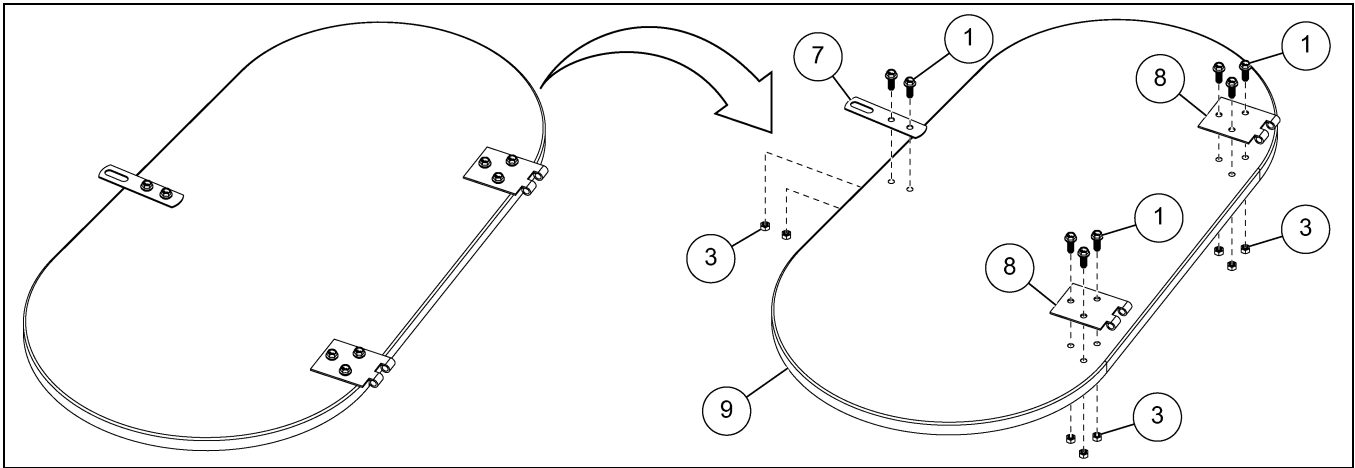

Figure 6 Assembling the Manway Cover with Latch and Hinge Leaves
9. Assemble the latch bar (7) and two hinge leaves (8) to the manway cover (9) using 5/16" x 1" flange bolts (1) and 5/16" hex nuts (3). (See Figure 6.)